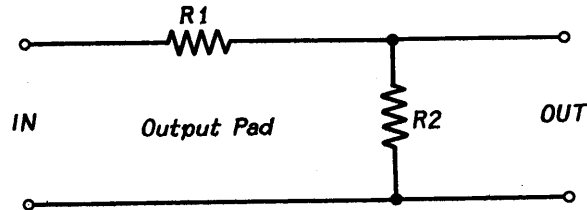

Fig. 1 — Suggested Output Pad Arrangement
2.09 Amplifier gain is measured between 600-ohm impedances with the amplifier furnishing about 1 watt of power (+ 30 dbm). Fig. 1 shows a suggested arrangement of the output pad referred to in Paragraph 2.07. R1 is a 562-ohm resistor and must dissipate approximately 1 watt of power. R2 is a 38-ohm $\frac{1}{2}$ or 1-watt resistor. If available, an 18A (37-ohm) resistor and an 18BD